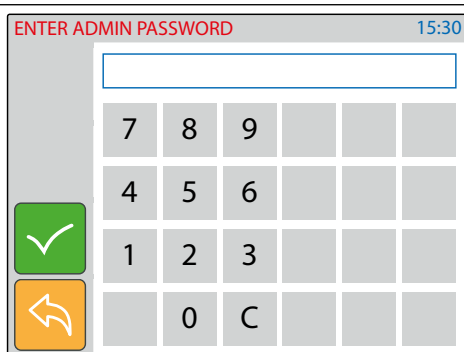

Fig. 15 Enter engineer password
- This setting is password protected (**Fig. 15**) because the adjustment will affect the entire installation.